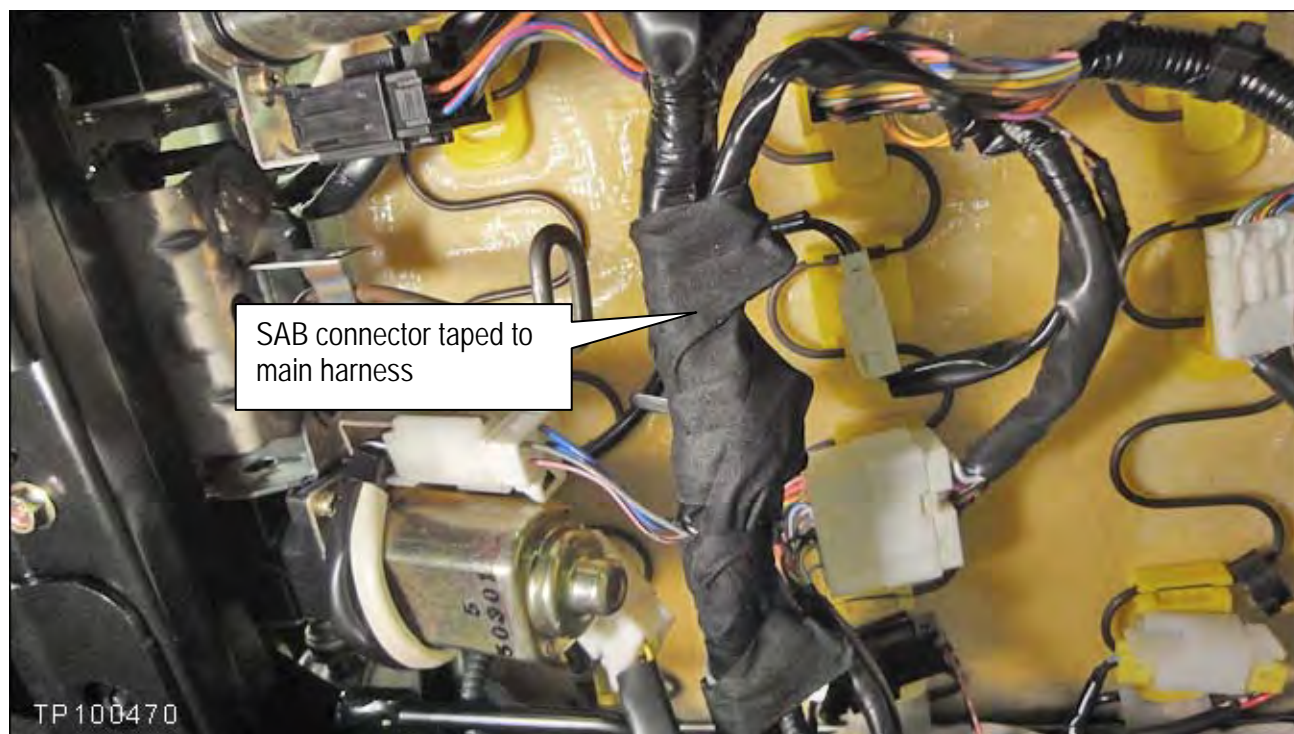

Figure 6b
- b. Completely tape the SAB connector to the main harness as shown in Figure 6b.